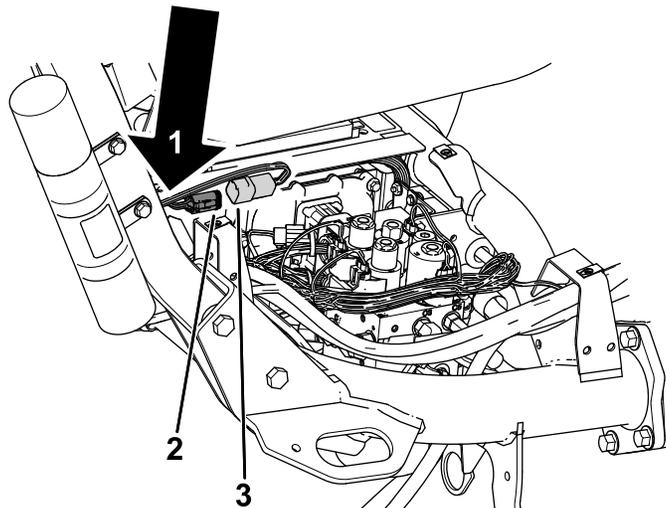

Figure 10
- 5. Route the wire harness down the roll bar and connect the wire-harness connector labeled P01 to the connector on the machine wire harness labeled P49 (Figure 10).
- 6. Secure the telematics harness to the main harness with a cable tie (Figure 10).